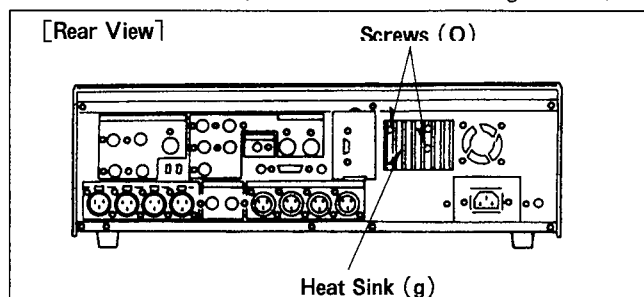

Figure D22
1. Unscrew the 2 screws (Q) on the Heat Sink (g). (Figure D22)